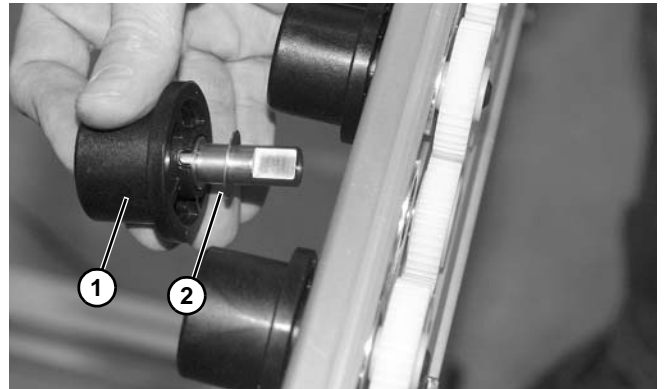

Figure 26
14. Remove roller assembly (**Figure 26, item 1**) and washer (**Figure 26, item 2**) from the conveyor frame.